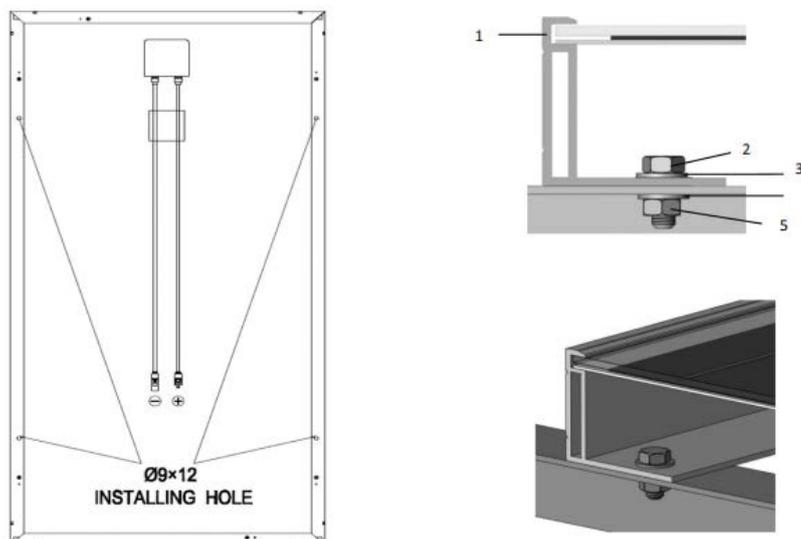

Figure 1. Sapphire Solar module installed with Screw fitting method
- Secure the module in each fixing location with an M8mm bolt and a flat washer, spring washer and nut as shown in Figure 1 and tighten to a torque of 16 Nm.